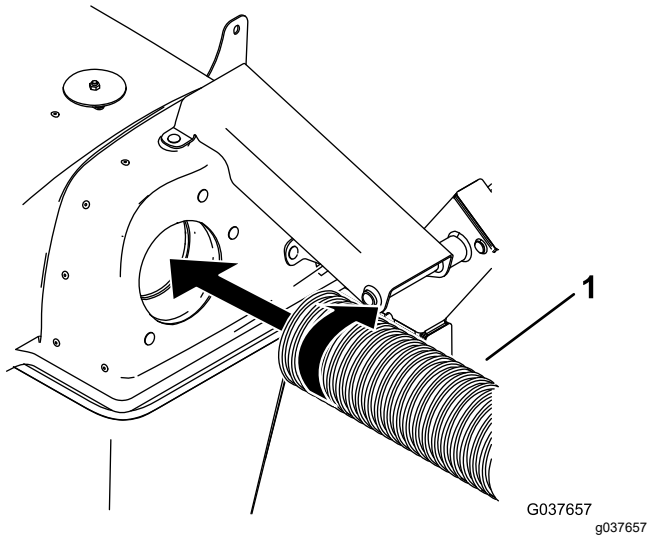

Figure 19
1. Thread 1 end of the hose into the hood 2 to 3 threads (Figure 19).